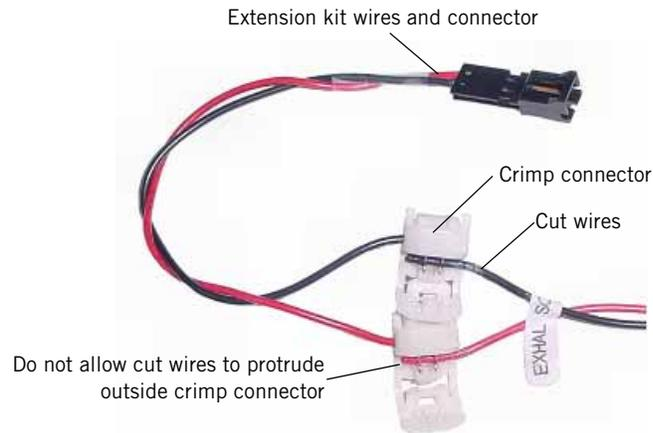

Figure 9-76: Installing Cut Wires into Crimp Connector
3. Insert the cut wire ends over both contacts in the crimp connector (Figure 9-76) for each cut wire pair.